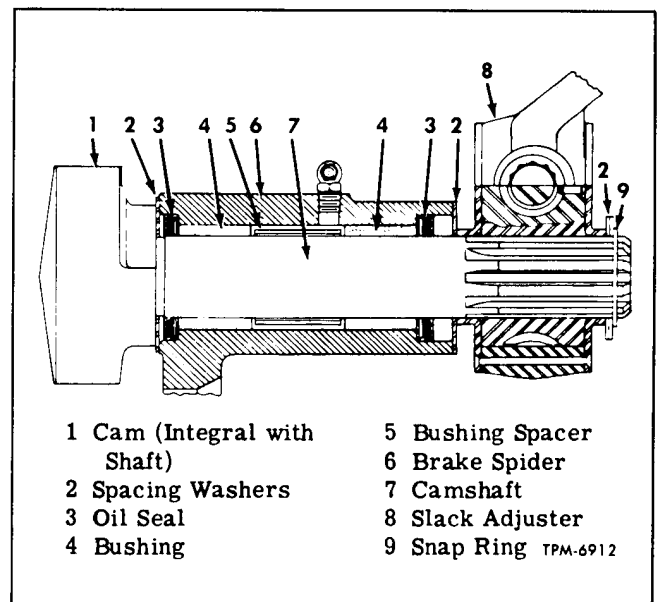

Figure 22—Front Brake Camshaft and Slack Adjuster Mounting
Front brake camshafts are mounted in two bushings in brake spider (fig. 22). Lubrication fitting in spider provides method for lubricating bushings. Lubricant is retained by seals which are pressed into spider.
4. To remove camshaft (fig. 22), disconnect brake chamber push rod yoke from slack adjuster. Remove snap ring and washer securing slack adjuster on camshaft and pull slack adjuster off end of shaft. Pull camshaft out of brake spider, stripping spacing washers off shaft as shaft is removed.
2. Install large spacing washer on camshaft and insert camshaft through bushings in spider (fig. 22), being careful not to damage oil seals.
5. Place spacing washer and spacer over inner end of camshaft (fig. 22), install slack adjuster on camshaft, and secure with washers and snap ring. Connect brake chamber push rod yoke to slack adjuster, using clevis pin and cotter pin. Back off slack adjuster worm shaft until shoe rollers rest on lowest points on cam.
Camshafts are mounted in bushings in brake spider. Mounting is similar to front camshaft mounting shown in figure 22. Lubrication fitting in spider lubricates bushings. Lubricant is retained by seals pressed into spider.
1. Unhook brake shoes as directed in "Rear Brake Shoe Removal," steps 1 and 2. Swing brake shoes away from cam. Rear camshaft mounting is similar to front mounting shown in figure 22.